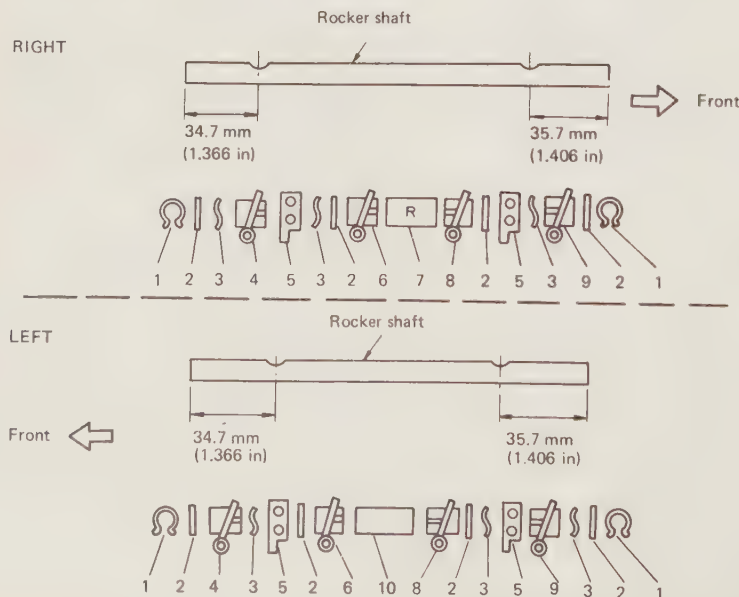

Fig. 1.20. Valve rocker assembly
- 1 Refer to Fig. 1.20. Remove the snap-ring and slide the parts off the shaft, taking care not to mix them up, so that they can be refitted in the same order.